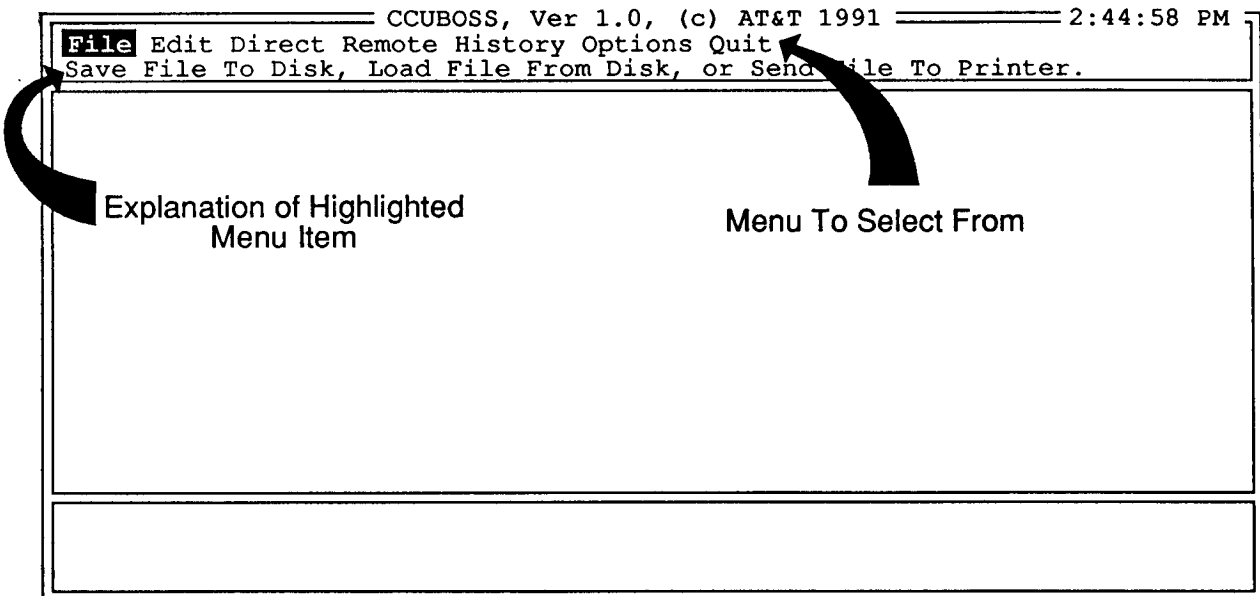

Figure 2: MAIN SCREEN MENU
Figure 2 shows the main menu screen. The first line on the screen has a list of the available options, with one of them highlighted. The second line has an explanation of that highlighted option.
move the highlighting to the option you desire (using the space bar or arrow keys), and make the actual selection by pressing the [RETURN] or [ENTER] key. (2) You can directly select an option from the menu line by pressing a letter key (the first letter of that option you wish to pick, this letter is shown in the "Help Text" color on color screens). In Figure 2 the "File" option is highlighted. You can select it by pressing [ENTER]; you could have just pressed [F] for "file" even if another option were highlighted.